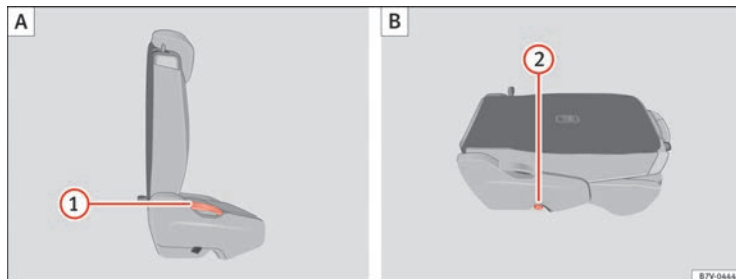

Fig. 90 Second row of seats: folding the rear seat **A**, rear seat as load space **B**
- Remove objects from the footwell in front of and behind the rear seat ⇒ ④.
- Pull lever ⇒ Fig. 90 ① back and fold the seat backrest forwards. The complete rear seat folds forward ⇒ ⚠.
- Fold the seat backrest forwards until it locks into the load surface position ⇒ Fig. 90 ②.
- Pull lever ⇒ Fig. 90 ① upwards and place the backrests in vertical position. The entire seat folds backwards.